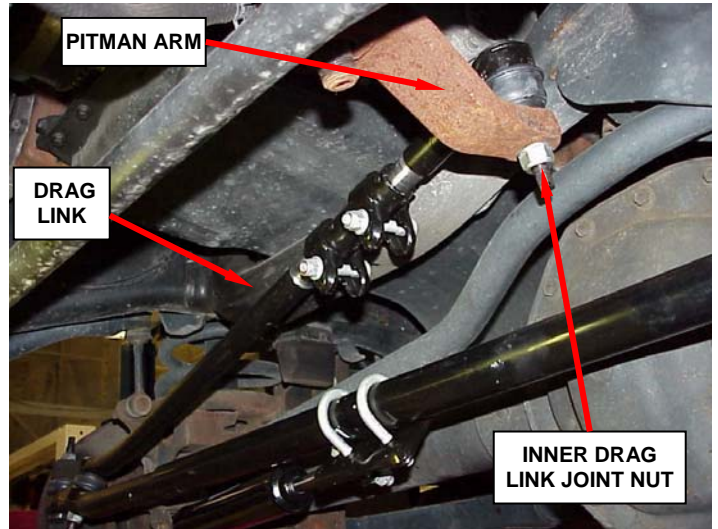

Figure 13 - Inner Drag Link Joint Nut
- a. Remove and discard the inner drag link joint nut (Figure 13).